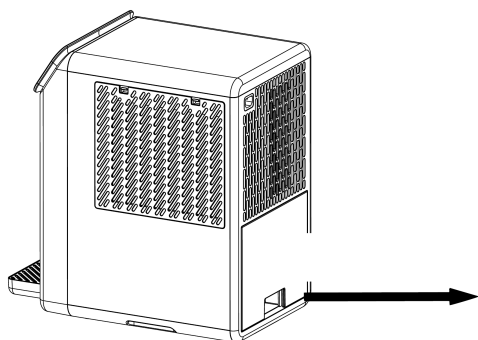

Figure 7 · Pull the collection tank out
1. Disconnect the appliance from the power supply and pull the collection tank out of the back of the appliance (Figure 7).